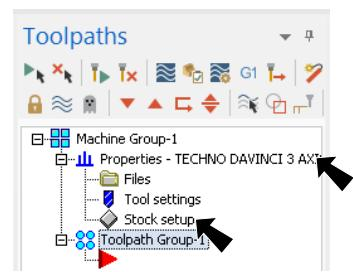

Fig. 28
Step 3. Expand **Properties** (click +) in Toolpaths Manager, **Fig. 28**.